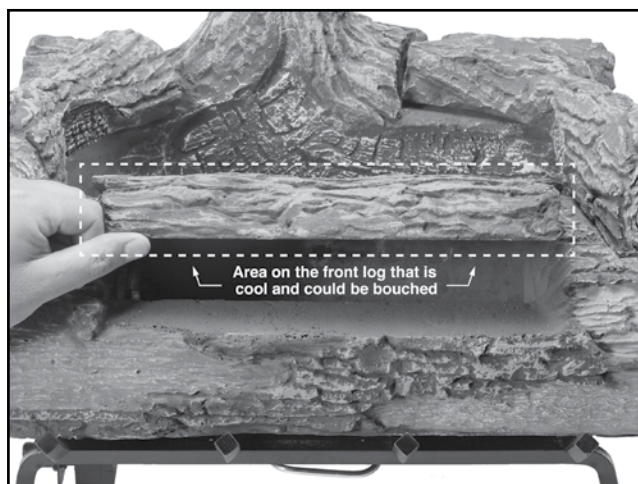

Figure 15
1. Open the door on the top of the front log of the log pile. The open door acts as a flame shield. Use your fingers to lift the top door as shown in Figure 15. Only touch in the areas indicated. Please note that even though the area indicated in Figure 15 is cool, areas of the log closer to the flame will be hot.